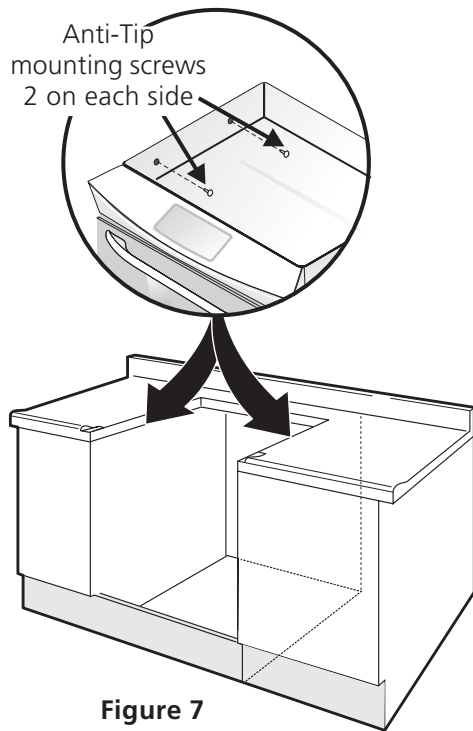

Figure 7
2. Lift the cooktop and secure range burner box to cabinet with screws supplied to prevent range from tipping (Figure 7).